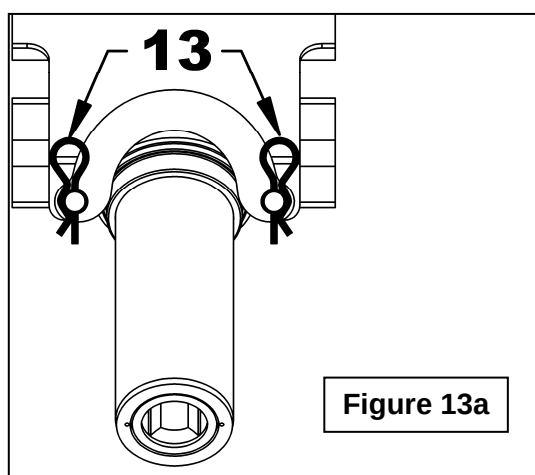

Figure 13a
IMPORTANT: The hairpins (Figure 13a, item 13) must be in the position shown in the figure.